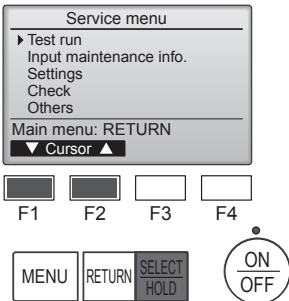

Fig. 7-1
- Select "Test run" from the Service menu, and press the [SELECT/HOLD] button. (Fig. 7-1)